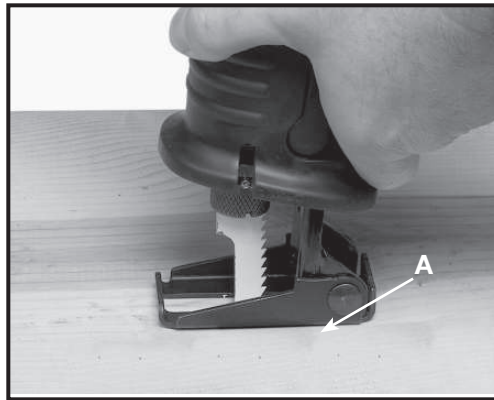

Fig. 12
The pivoting guide shoe (A) Fig. 12, serves as a rest while making a cut and it can be adjusted to accommodate many types of cutting applications.